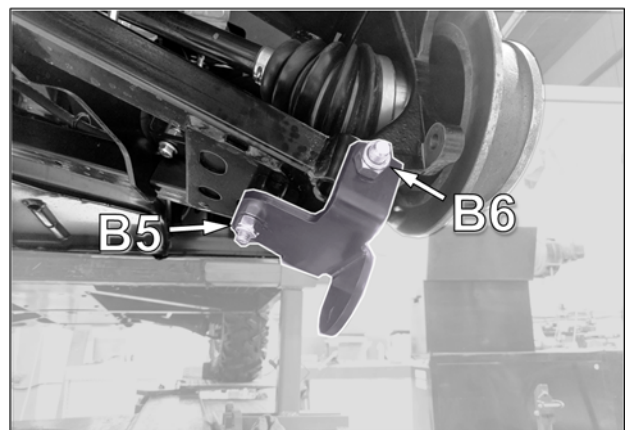

Fig. 8
- Install provided nuts (B5-B6) on bolts (B3-B4) & tighten them to 50 N•m [37 lb•ft] of torque. See Fig. 8